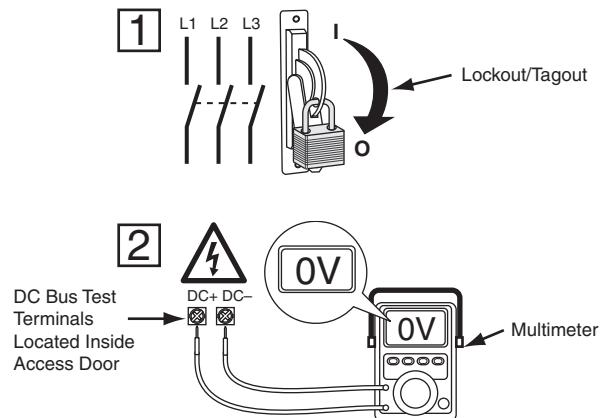

Fig. 3 — Check DC Bus Terminals
2. Check to be sure that voltage between DC+ and DC- and from each DC terminal to the chassis is zero before proceeding. See Fig. 3.